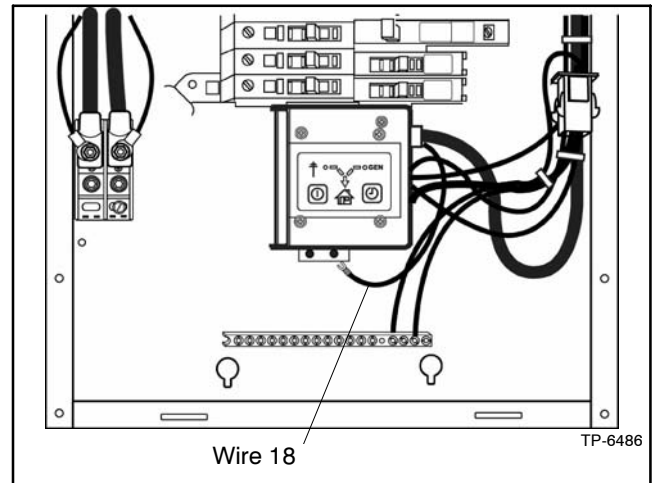
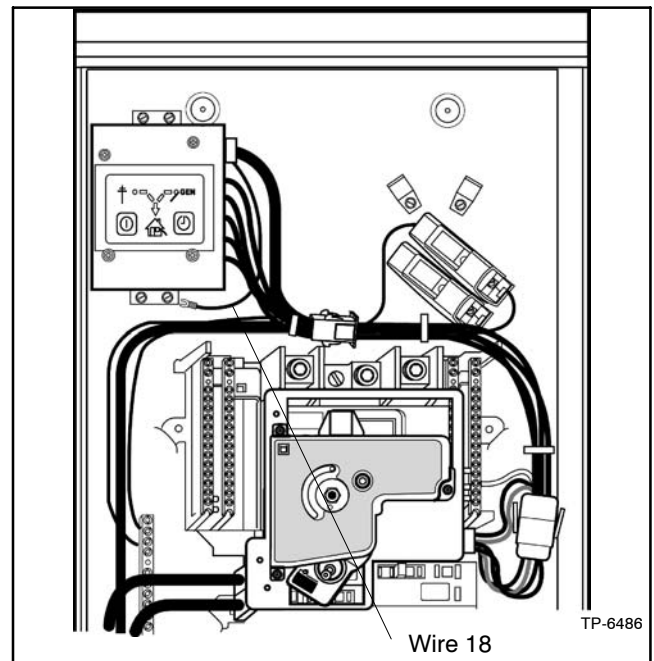

Figure 2-46 Communication Cable Shield, Type 1 Enclosures
Figure 2-47 Communication Cable Shield, Type 3R Enclosures
1. Slide the spade connector of wire 18 (shield wire for the communication cable) between the mounting screw of the generator control unit and the control unit housing as shown in Figure 2-46 (Type 1 enclosures) or Figure 2-47 (Type 3R enclosures). Secure the mounting screw, taking care not to crush the shield wire connector.